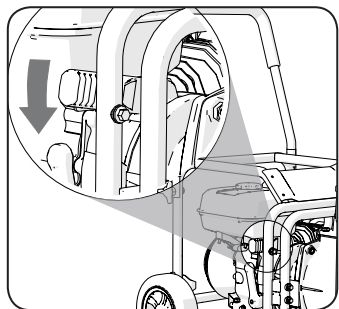

Fig 10
- Firmly push the engine and accessory together until the 'click' of docking is heard. The Uni-coupling release lever (Fig. 10) will return to its neutral position.
- Operate the 'Uni-coupling' release lever with one hand (Fig. 10) whilst gently easing the accessory outwards releasing it from the coupling with the other hand.